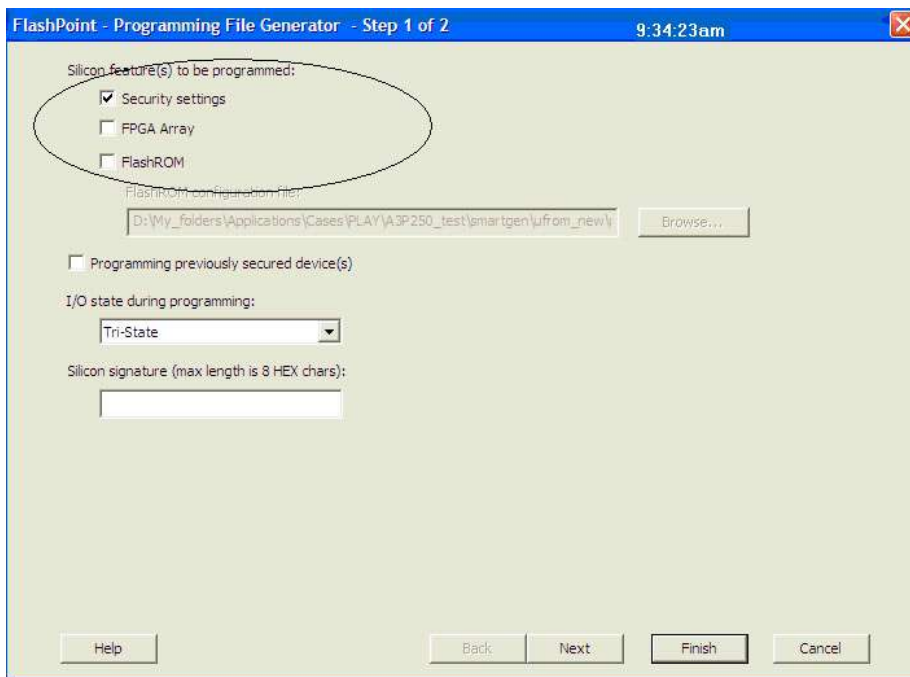
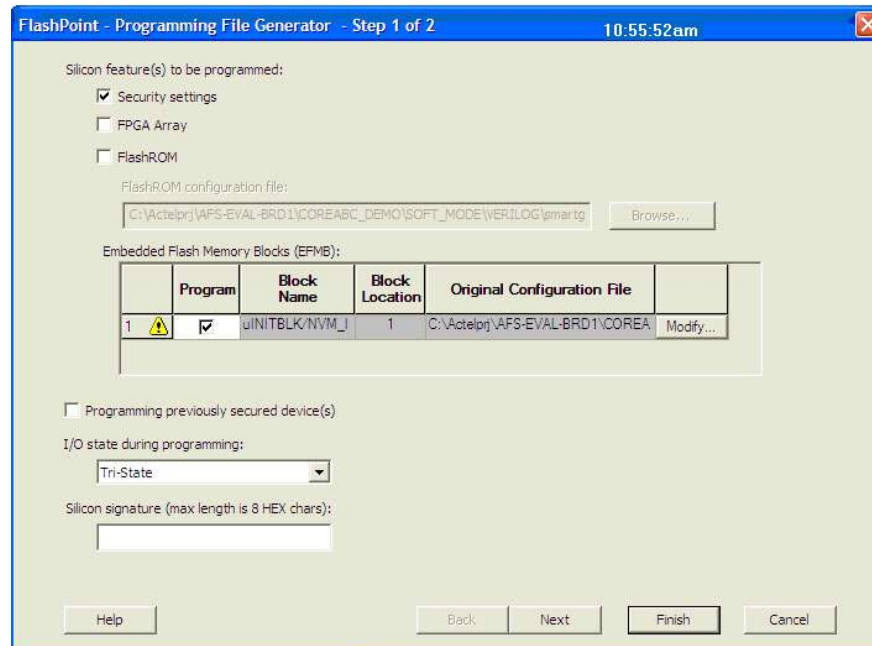

Figure 12-14 • Programming IGLOO and ProASIC3 Security Settings Only
Figure 12-15 • Programming Fusion Security Settings Only
1. Select only the **Security settings** option, as indicated in Figure 12-14 and Figure 12-15 on page 318. Click **Next**.